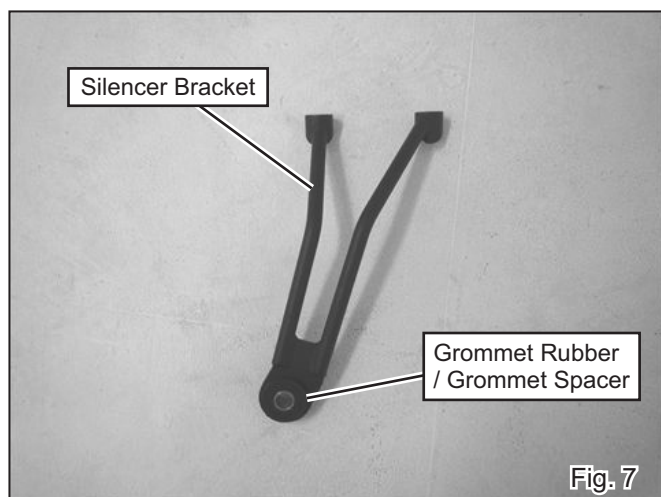

Fig. 7
- 9) Insert Grommet Rubber and Grommet Spacer to Silencer Bracket (See Fig. 7).